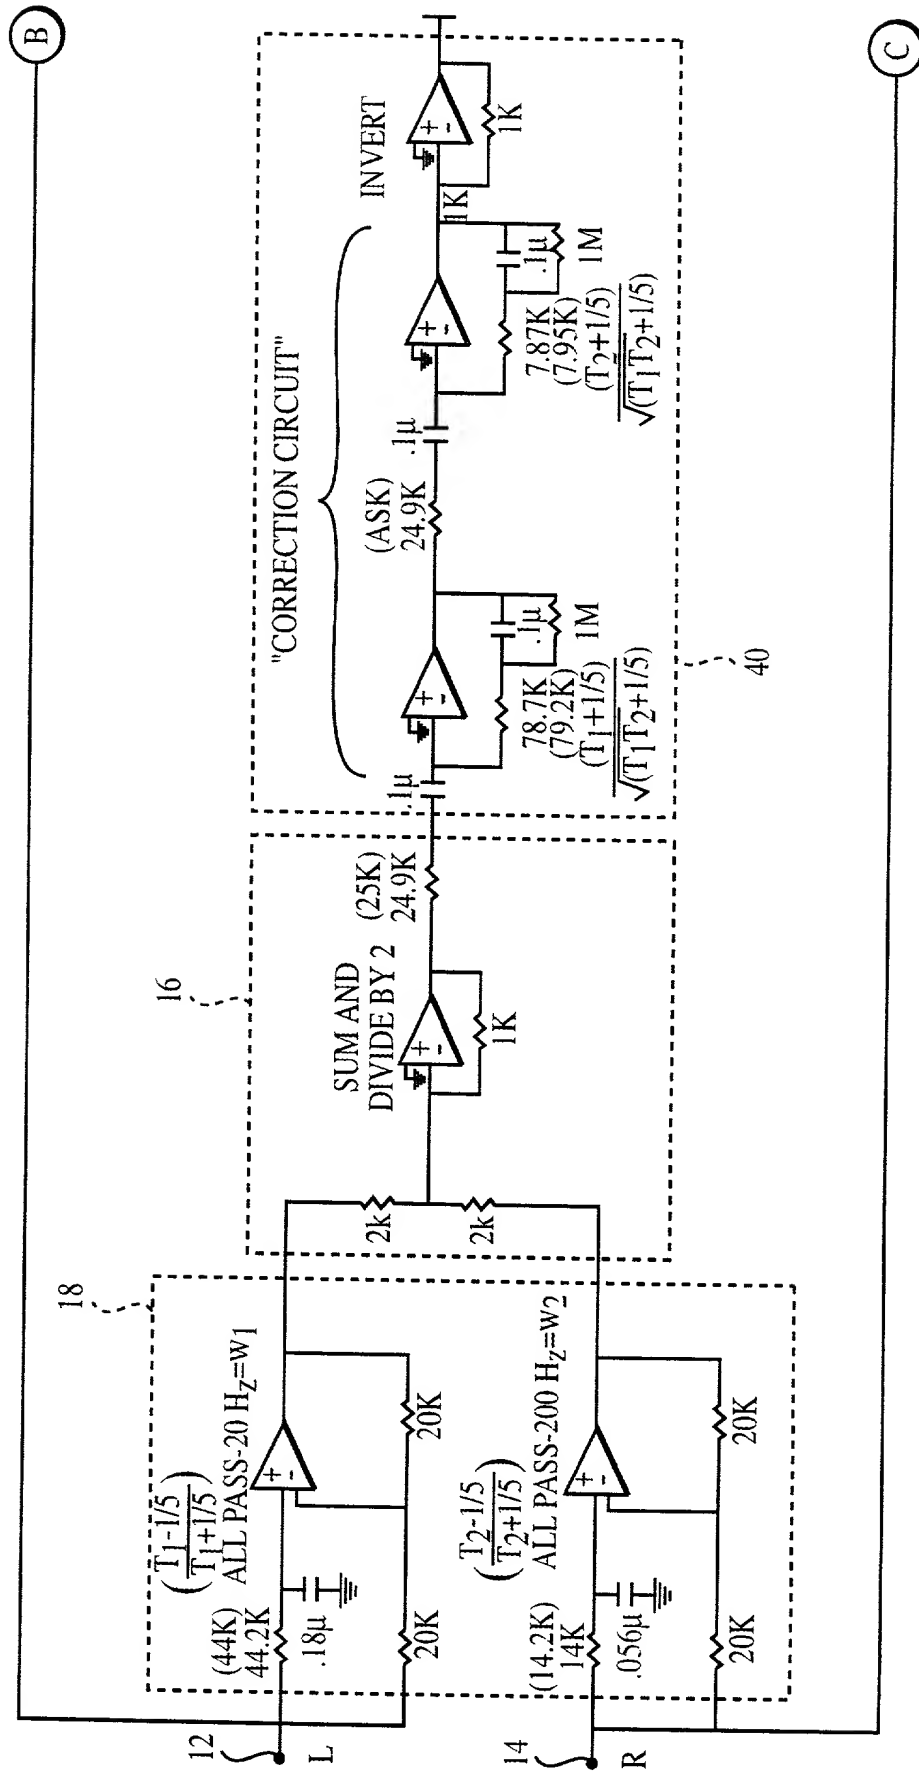

FIG. 4a
FIG. 4a is a schematic diagram of a circuit for processing two input signals, L and R, to produce two output signals, B and C. The circuit includes two input stages (12 and 14), two filter stages (18 and 20), a summing stage (16), and a correction circuit (22). The input signals L and R are connected to the input stages, which output signals to the filter stages. The filter stages output signals to the summing stage, which outputs a signal to the correction circuit. The correction circuit outputs signals to the output stages B and C.